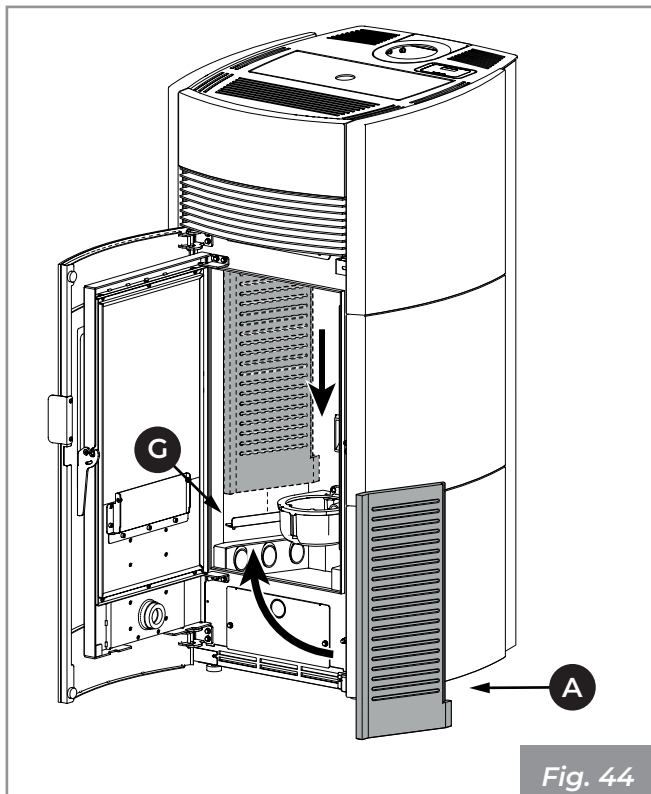

Fig. 44
- Position the left refractory wall (A) in the combustion chamber by inserting the bottom part of the wall itself in the special slot carved into the support (C) (Fig. 44).